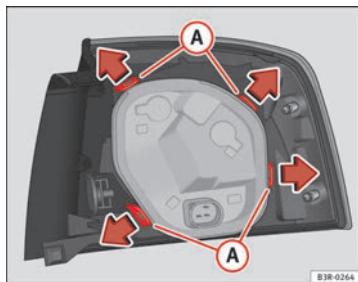

Fig. 226 Retaining tabs on reverse side of tail light
- Release the retaining tabs **A** ⇒ Fig. 226.